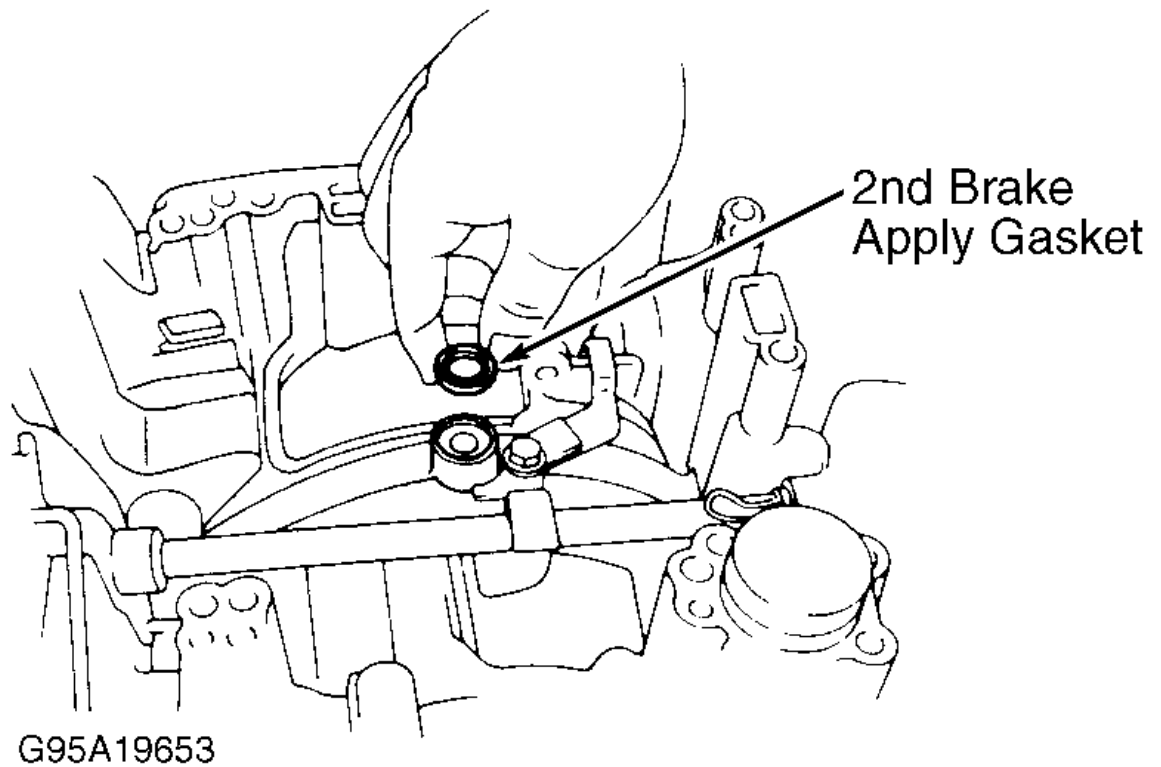
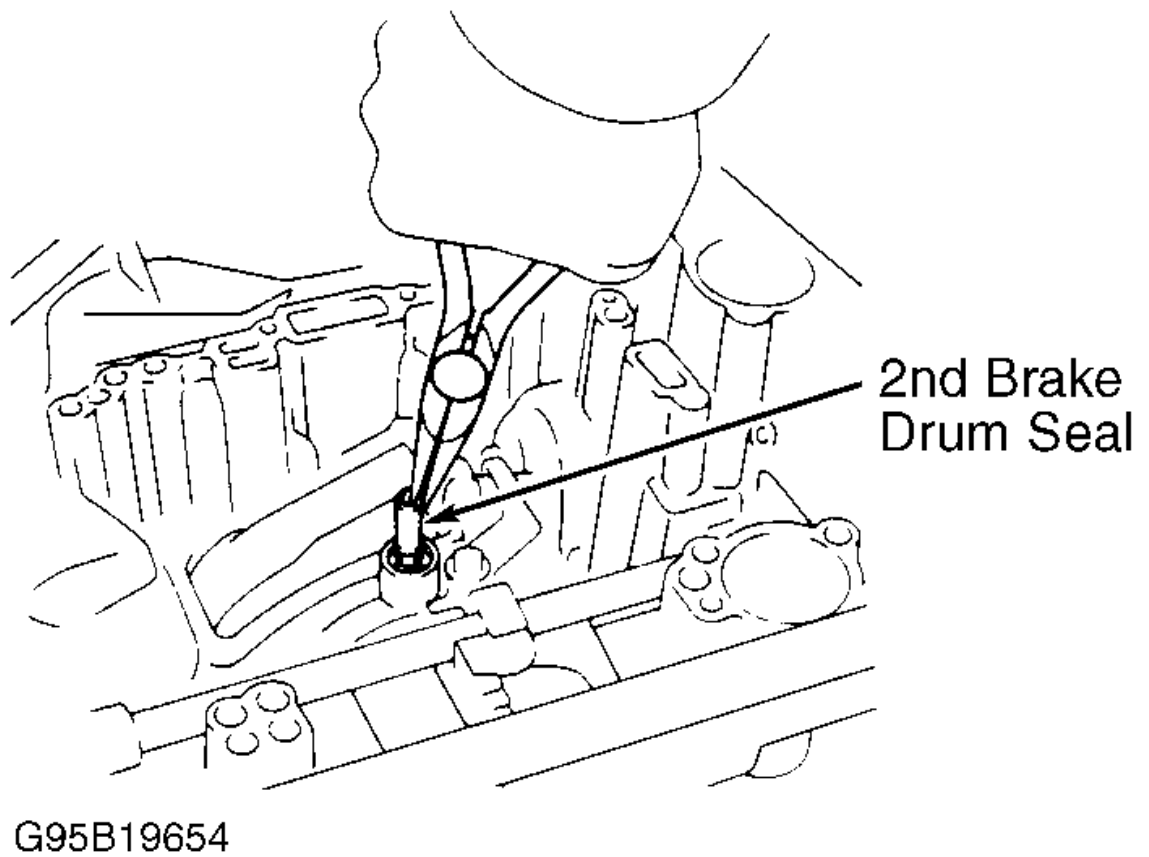

Fig. 12: Removing 2nd Brake Apply Gasket
Fig. 13: Removing 2nd Brake Drum Seal
4. On all models, remove oil pan and gasket. Remove magnet(s) from oil pan. Remove oil strainer (filter) and tube bracket. Carefully remove all oil tubes. Remove the manual detent spring. Disconnect the solenoid harness connectors. Remove the valve body assembly. Refer to VALVE BODY ASSEMBLY R & I under ON-VEHICLE SERVICE. Remove throttle cable and solenoid sub-harness from transaxle case. Remove 2nd brake apply gasket. Remove 2nd brake drum seal. See Fig. 12 and Fig. 13 .
2. Remove oil pan and gasket. Remove magnet(s) from oil pan. Remove oil strainer (filter). Remove the manual detent spring. Disconnect the solenoid connectors. Remove the valve body assembly. Refer to VALVE BODY ASSEMBLY R & I under ON-VEHICLE SERVICE. Remove throttle cable and solenoid sub-harness from transaxle case. Remove check ball body and ball, next to 2nd brake accumulator. Remove 2nd brake apply gasket. Remove 2nd brake drum seal. See Fig. 12 and Fig. 13 .